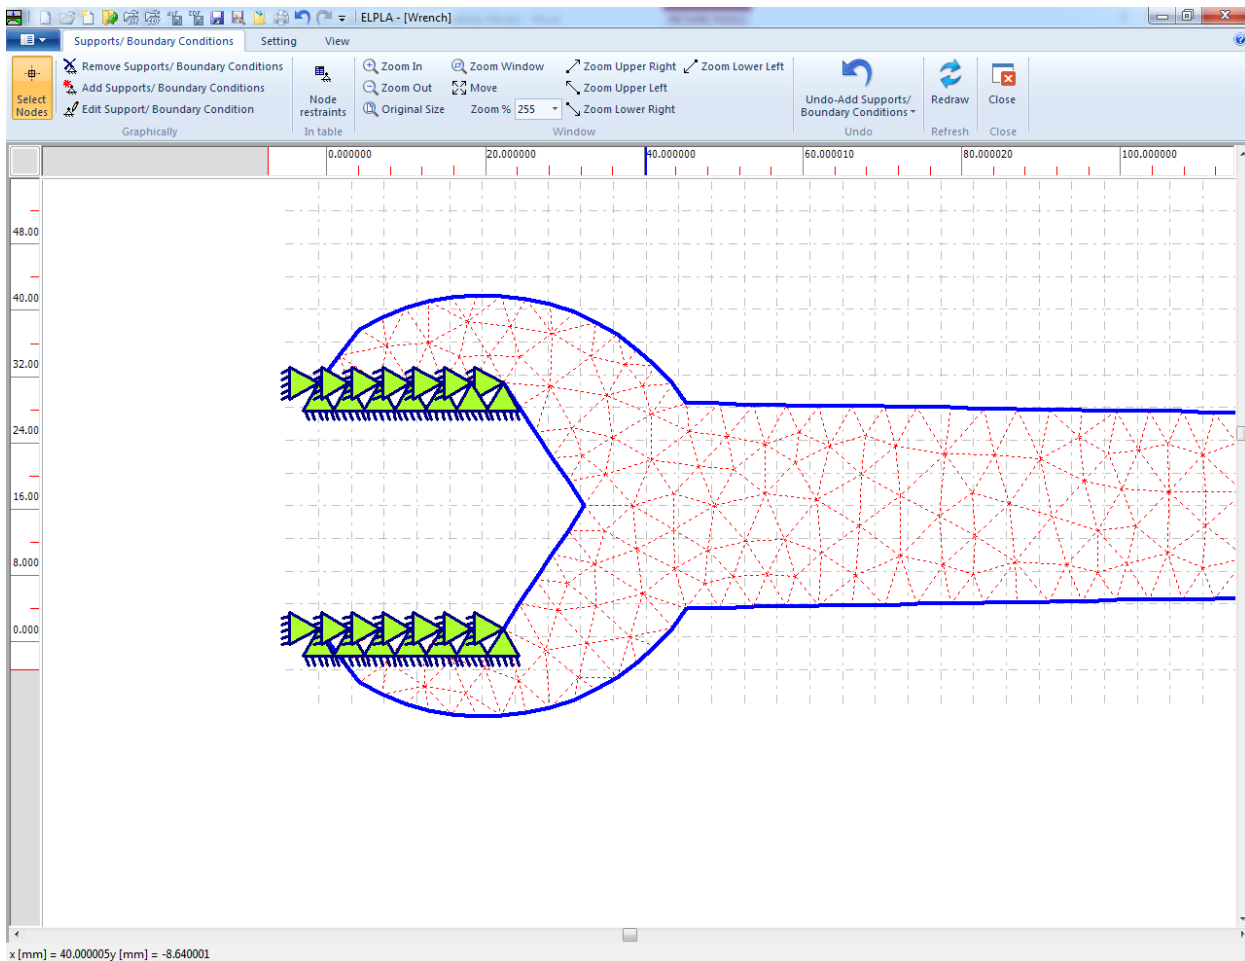

Figure 5.22 Supports
After you have completed the definition of supports, the screen should look like the following Figure 5.22.
- Choose "Save" command from "File" menu in Figure 5.22 to save the data of supports
- Choose "Close" command from "File" menu in Figure 5.22 to close the "Supports/ Boundary Conditions" Window and to return to the main window